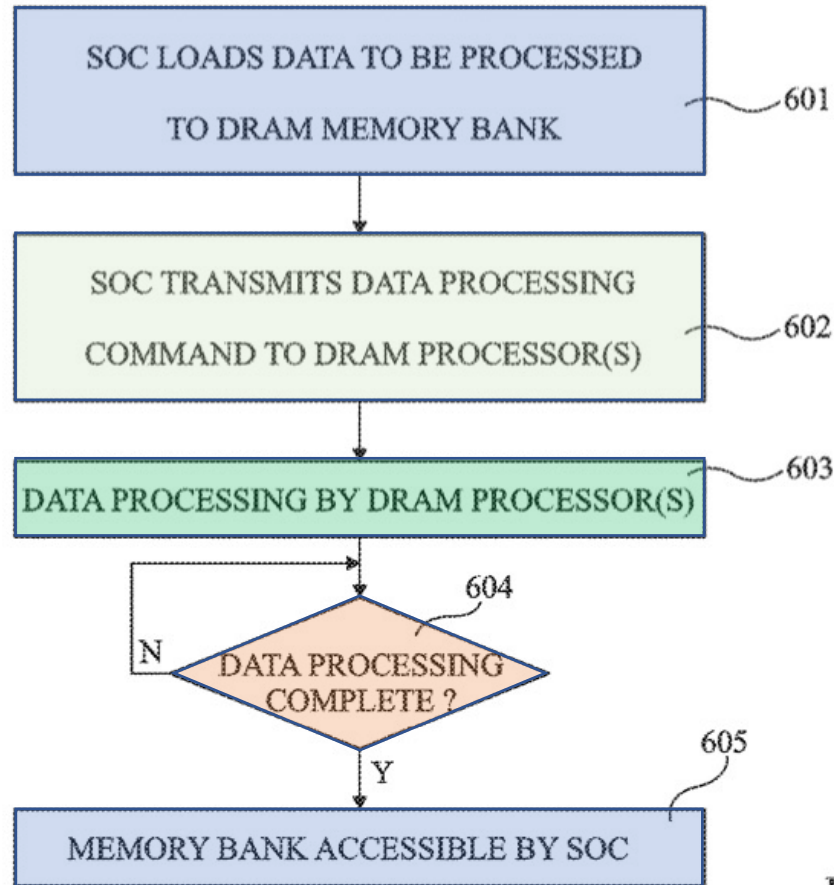

Fig 6
- FIG. 6 is a flow diagram representing operations in a method of delegating a processing task to a DRAM processor according to an example embodiment